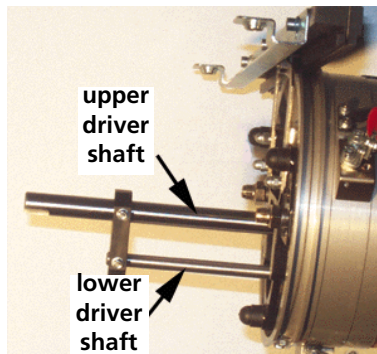

Figure 7-7
6. Put five drops of sewing machine oil in the oiling channel located on the left take-up lever rail next to the left side of the needle case assembly. (See *Figure 7-7*). Allow the machine to sit without running for one full minute. This will allow the oil to reach the assemblies intended to be lubricated in this process (the presser foot guide, reciprocator guide, cam follower shaft, and connecting rod pin.)